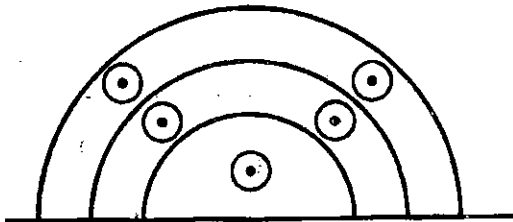

Figure 3-1: Non-flared Steps
- PLACEMENT – Place no further than 3'-6" from any vertical surface. Place no further than 7' from any other low flow head on a straight step or bench. Place near the front edge of steps (see Figure 3-1).